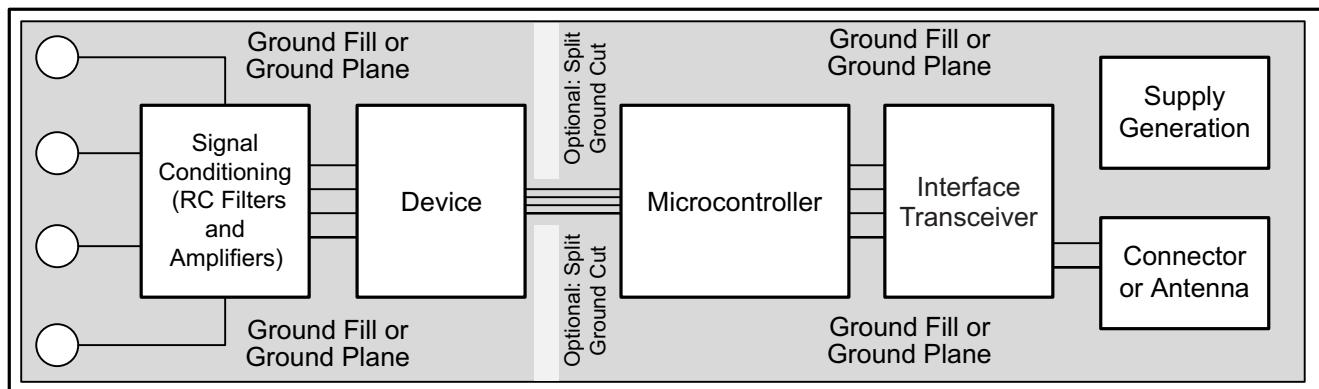

Figure 86. System Component Placement
TI recommends employing best design practices when laying out a printed circuit board (PCB) for both analog and digital components. This recommendation generally means that the layout separates analog components [such as ADCs, amplifiers, references, digital-to-analog converters (DACs), and analog MUXs] from digital components [such as microcontrollers, complex programmable logic devices (CPLDs), field-programmable gate arrays (FPGAs), radio frequency (RF) transceivers, universal serial bus (USB) transceivers, and switching regulators]. An example of good component placement is shown in Figure 86. Although Figure 86 provides a good example of component placement, the best placement for each application is unique to the geometries, components, and PCB fabrication capabilities employed. That is, there is no single layout that is perfect for every design and careful consideration must always be used when designing with any analog component.